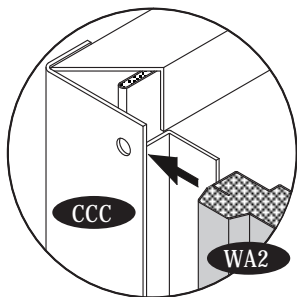

Fig.1
21. Insert the wall panel (WA2) into the base 'U' channel and slide into the corner column. See fig. 1&2. Make sure the wall panel must be inserted fully into the corner column. See top view. Secure the corner column (CCC) to the base 'U' channel (BC1C) by (S1) screws from out side. See fig.3.